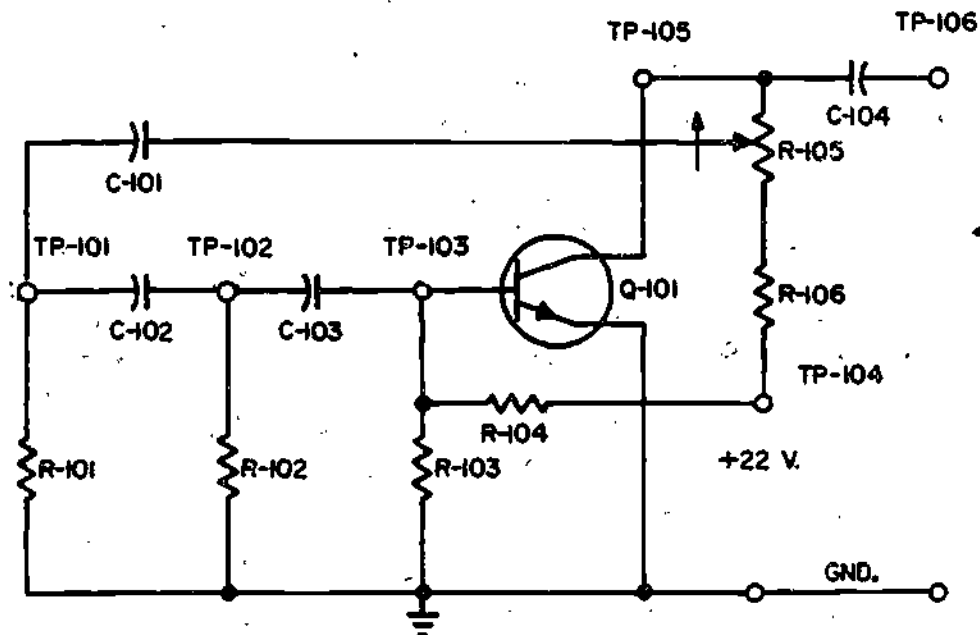

Figure 44-1. Phase Shift Oscillator
- a. A schematic diagram of the trainer is shown in figure 44-1.
- (1) R106 and R105 make up the collector load for Q101.
- (2) R103 and R104 make up the forward bias network for Q101. R103 is also part of the frequency determined network.
- (3) Q101 is the amplifier in the RC oscillator.
- (4) C101, R101, C102, R102, C103, and R103 form both the feedback loop and the frequency determining device.